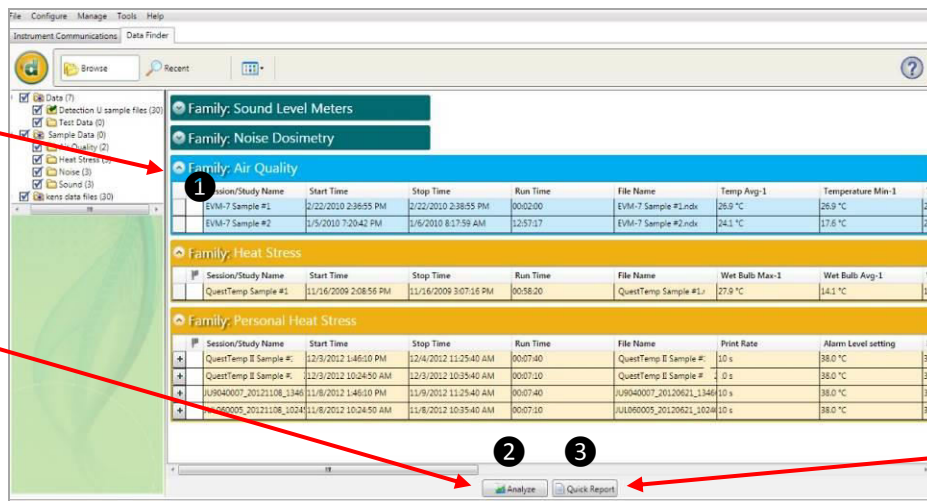

Figure 1-6: Selecting your data in the Data Finder Page
- **About the data table:** the data table headings can be used as a guide to understand your data. In the Figure 1-6, you may want to view specific measurement information from a SLM study with a run-time of 25+ hours and a start date of 4/21/2011. Using the table, you can quickly scan to the run-time and start time fields and locate the specific study.